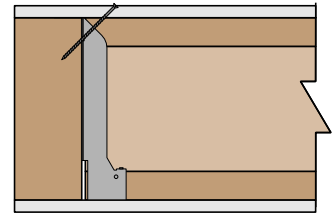

Figure 4
- Install screw through pilot hole into beam to draw the joist down into the hanger (Figure 4).